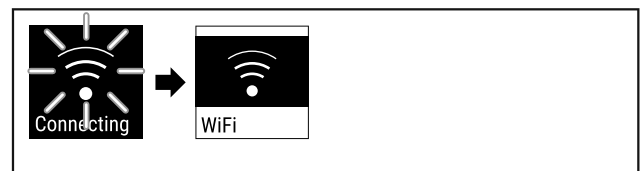

Fig. 86
- ▶ Connection is established (see Fig. 86).